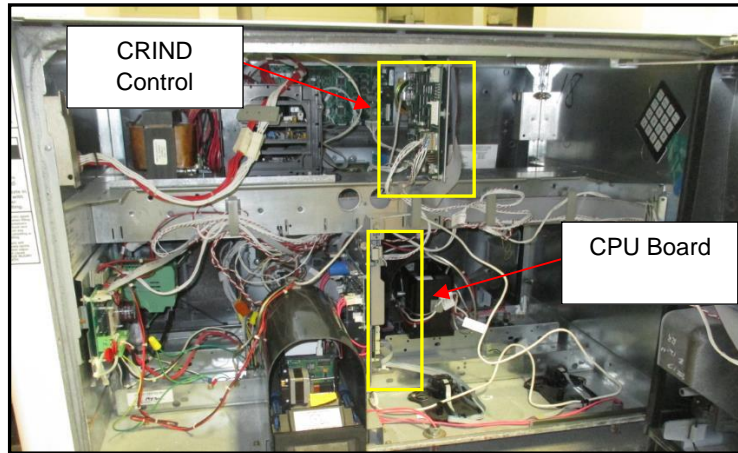

Fig 1.17 – Location of CRIND Control Node and CPU Board
20. Identify the CRIND Control Node located on the upper electronics rail inside of the electronics cavity, and the CPU Board mounted below. (Fig 1.17)